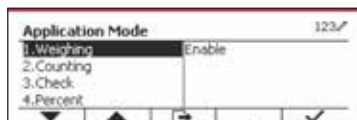

Figure 24
3. Press the softkey corresponding to the ✓ icon to enter the submenu Application Mode. (See Figure 24)